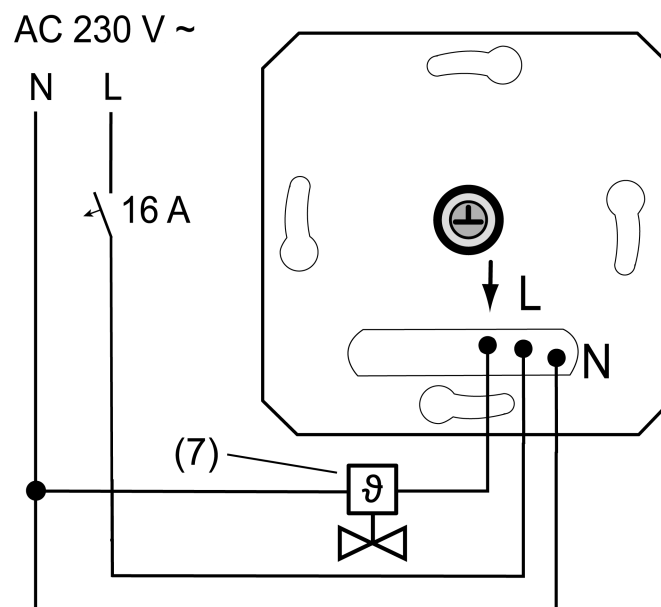
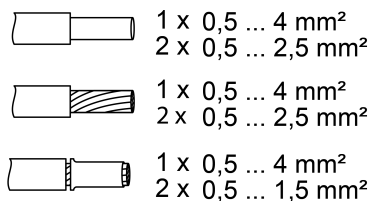

Figure 2: Connection example of the insert
Figure 3: Clampable conductor cross-section
- Connect electrothermal valve drive (7) to insert (1) according to connection diagram (Figure 2). Observe the conductor cross-sections (Figure 3).
- Fit cover frame (2), central plate (3) and control knob (4).